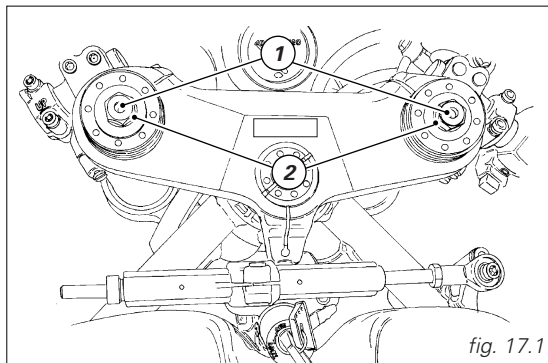

fig. 17.1
- 1) (fig. 17.1) to adjust rebound damping;
- 2) (fig. 17.1) to adjust inner springs preload;